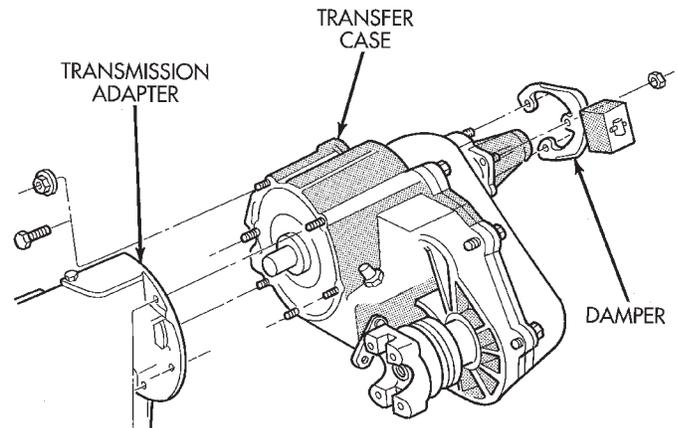

Fig. 8 Transfer Case Mounting
- (1) Mount transfer case on a transmission jack. Secure transfer case to jack with chains.
- (2) Position transfer case under vehicle.
(3) Align transfer case and transmission shafts and install transfer case on transmission.
(4) Install and tighten transfer case attaching nuts to 35 N m (26 ft. lbs.) torque.
(5) Install damper on rear retainer (Fig. 8). Tighten damper attaching nuts to 54 N m (40 ft. lbs.) torque.